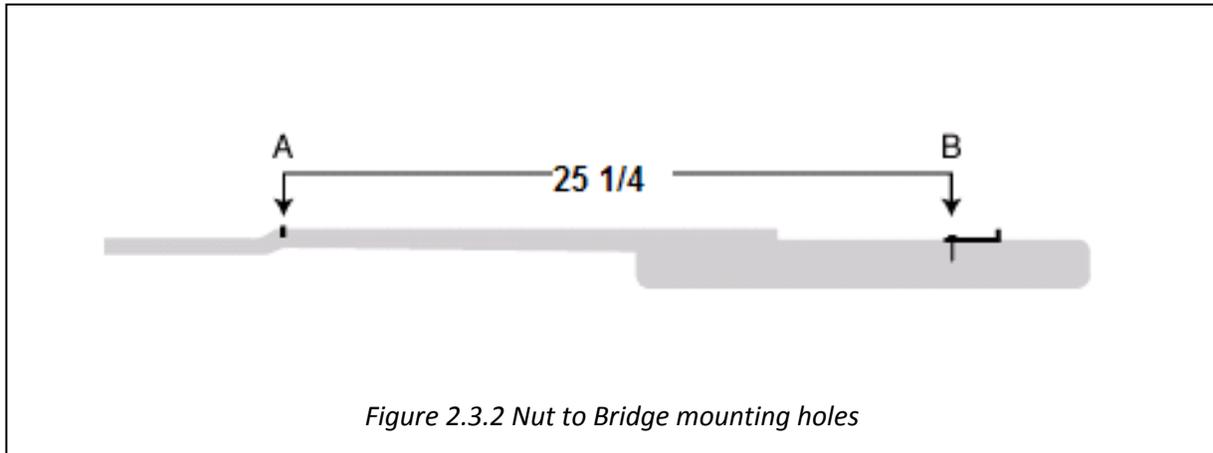

Figure 2.3.2 Nut to Bridge mounting holes
1. Measure 25 1/4" from the nut ("A" in Figure 2.3.2, the edge closest to the fingerboard).